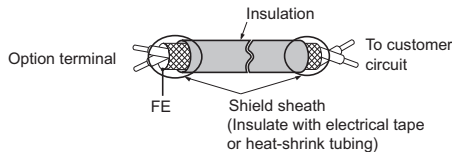

Figure 23 Prepare Ends of Shielded Cable
6. Prepare and connect the wire ends as shown in Figure 23 and Figure 24. Refer to Wire Gauges and Tightening Torques on page 37 to confirm that the proper tightening torque is applied to each terminal. Take particular precaution to ensure that each wire is properly connected and wire insulation is not accidentally pinched into electrical terminals.